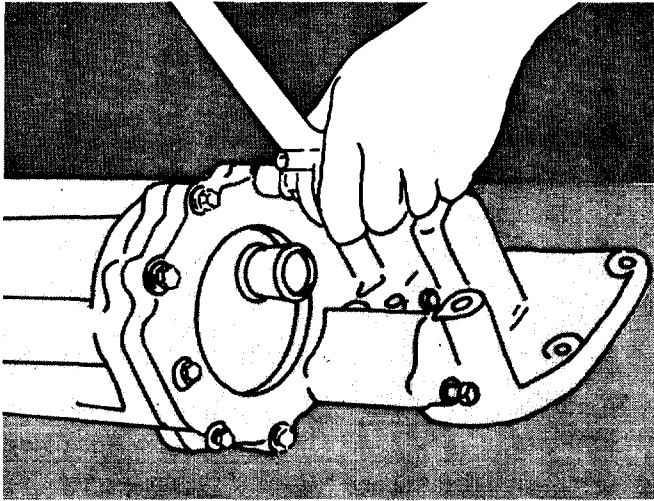

Fig. 7-36. Tighten The Capscrews For The Cover.
10. Tighten all of the capscrews to 15 to 20 ft.-lbs. [20 to 27 N-m] torque, Fig. 7-36.